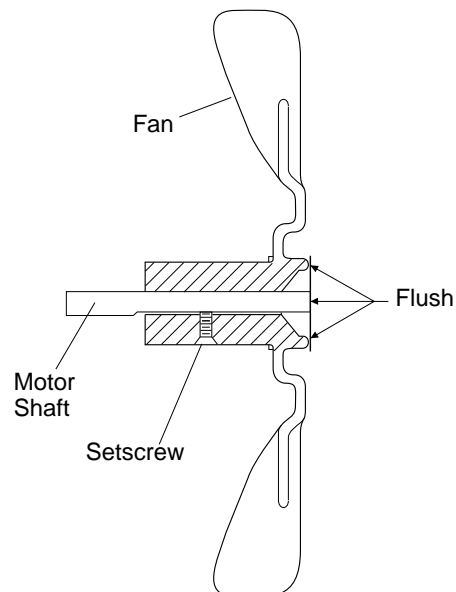

Figure 22 - Fan Cross Section
6. Replace fan on motor shaft. Place fan hub flush with end of motor shaft (see Figure 22).